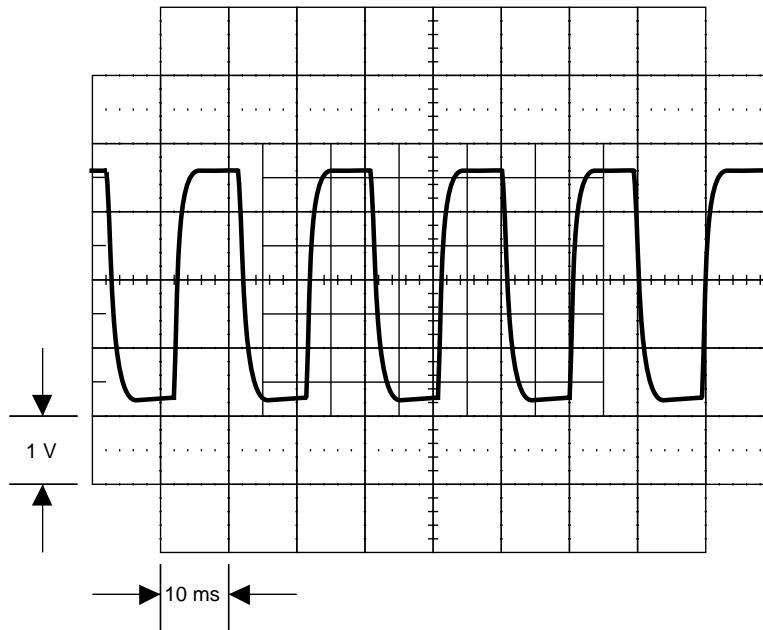

Figure 5-31. Waveform at TP3
2. Measure the voltage at TP4 with a DMM and verify it is between +0.1 and +0.3V. If a failure is detected, check U2C, U6, and associated components. Next, power down the 5700A and connect an oscilloscope, set for 20V/div and 500 us/div, to TP3. At power up of the 5700A the oscilloscope should displays a 1 kHz square wave which ramps up to the level shown in Figure 5-31, remains there for approximately 1 second, and goes to a 0V. If a failure is detected, skip to the Magnitude Control circuit troubleshooting in this section.
5. Check the output from the Magnitude Control circuit. Set the 5700A to +220V dc, operate. Connect an oscilloscope to TP3 and verify it displays a signal similar to the previously shown Figure 5-31, except the amplitude is typically 10V p-p. The measured amplitude may not be 10V p-p, for now just verify that the 1 kHz signal is present. If a failure is detected, skip to the Magnitude Control circuit troubleshooting in this section.
8. Check the output from the Magnitude control circuit. Set the 5700A to 220 mA dc at 1 kHz, operate. Connect an oscilloscope to TP3 and verify it displays a signal similar to the previously shown Figure 5-31, except the amplitude is typically 40V p-p. The measured amplitude may not be 40V p-p, for now just verify that the 1 kHz signal is present. If a failure is detected, skip to the Magnitude Control circuit troubleshooting in this section.